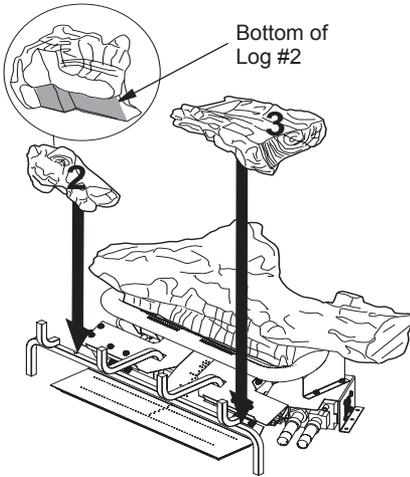

Figure 29 - Installing Logs #2 and #3
3. Place right bottom log (#3) onto pan burner as shown in Figure 29, page 19.